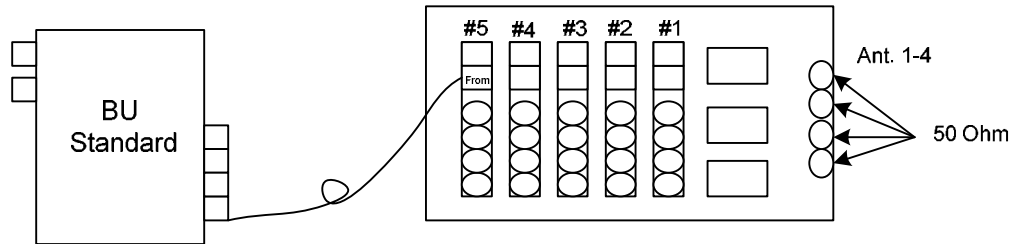

Figure 3.3 PDI Setup 2
3.11. Connect PDI testing setup 2 according to Figure 3.3.